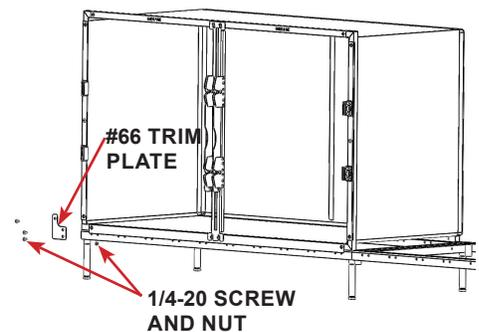

FIGURE 2.20 - Trim Plate #66
STEP 6: Install, but do NOT fully tighten screws, the bottom-left trim plate (#66) using the screws removed in the previous step. The bottom hole requires a 1/4-20 screw and nut, which secures the cage to the platform. See FIGURE 2.20